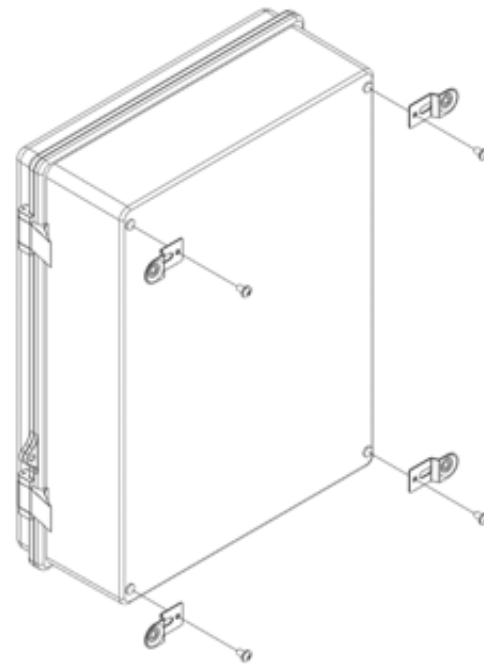

Figure 2
Step 4 – Attach the (4) four mounting feet to the back of the enclosure with the (4) four #10 - 32 screws provided (Figure 2).